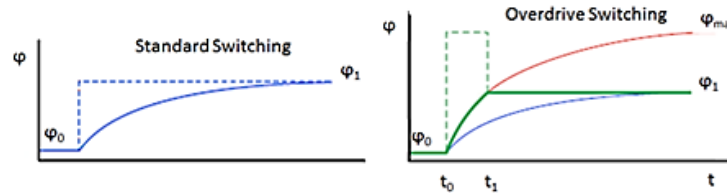

Figure 23 Standard switching, and Overdrive switching taking advantage of the transient nematic effect.
- Max Transient Frames – This parameter is specific to ODP. Multiple concepts are built into ODP to improve the LC switching speed. One concept is referred to as the transient nematic effect. As shown in Fig. 23, if phase delay of a LC modulator is changed from ϕ_0 to ϕ_1 , then the LC molecules relax into the new phase following approximately an exponential curve. In order to take advantage of the transient nematic effect, one instead changes the phase from ϕ_0 to ϕ_{max} to ϕ_1 . This causes the relaxation to follow a different exponential curve until the desired phase is reached, resulting in a significantly improved switching speed. When switching between images with pixels set to arbitrary phases, the duration of time that the pixels should be set to an intermediate phase is variable based on the initial and target phase. The transient frames allow the different pixels to be held at varying voltages for an appropriate amount of time. However, on most computers each transient frame takes approximately 490 μ s to load. There is a balance between minimizing the LC response time without limiting the system frame rate. In most applications we recommend this parameter be set to 10.